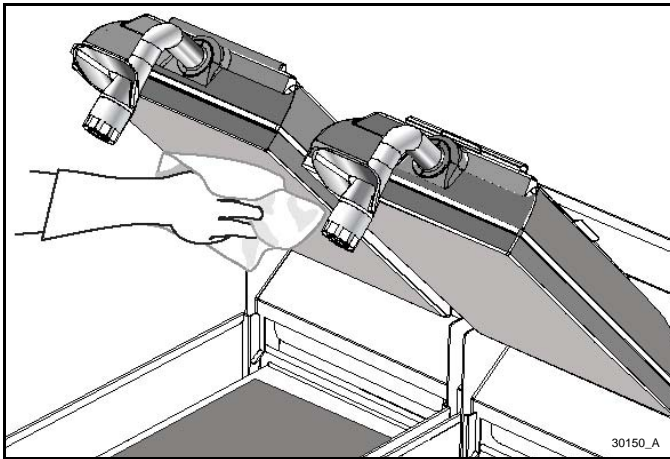

Figure-180
14. Wipe the upper platens and lower plates with a clean, sanitizer-soaked grill cloth before cleaning. Discard the cloth in the soiled towel pail after use. See Figure-180.